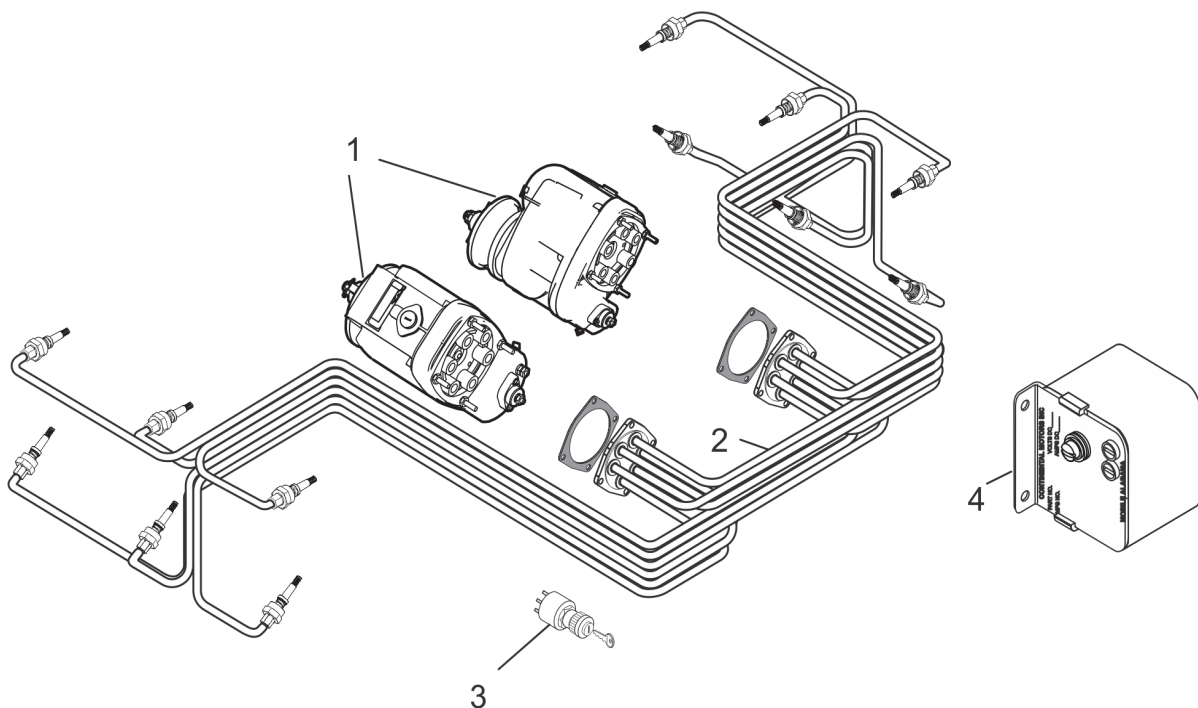

Figure 2-1. S-1200 Magneto and Associated Components
To obtain the retard spark necessary for starting, S-1225 and S-1227 Series Magnetos employ an impulse coupling, and S-1204, S-1208, S-1254, and S-1258 Magnetos include an additional contact assembly used in conjunction with a starting vibrator. Figure 2-1 shows the components used in a typical S-1200 Ignition System incorporating a starting vibrator. This system consists of a single contact assembly magneto (item 1), a dual contact assembly magneto (item 1), an ignition harness (item 2), a combination ignition and starter switch (item 3), and a starting vibrator (item 4).